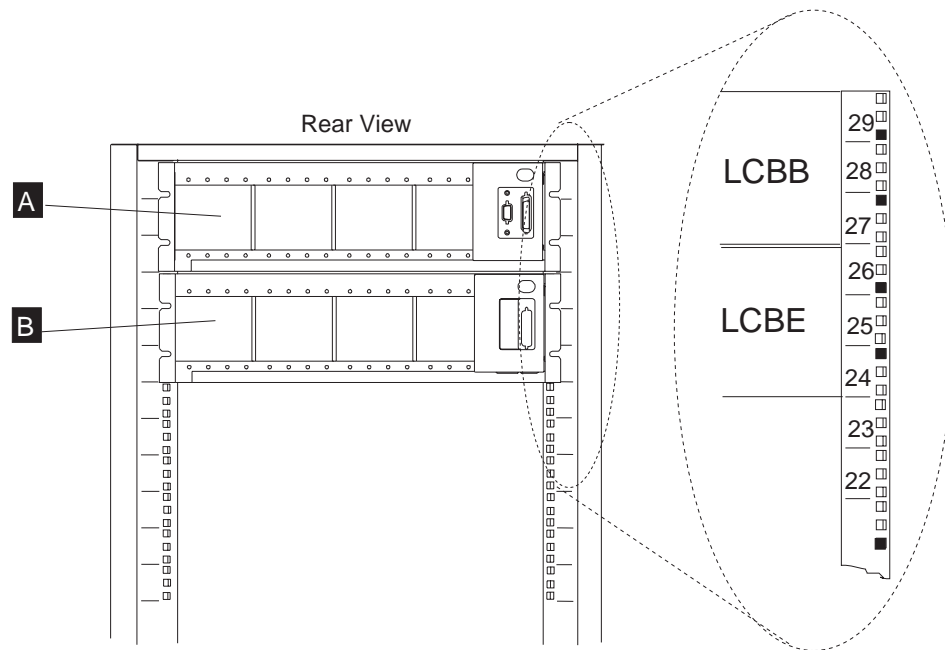

Figure 11-3. LCBs Installation in 29 U Rack
- Refer to Figure 11-3 on page 11-13 for LCBs installed in a 29 U rack.